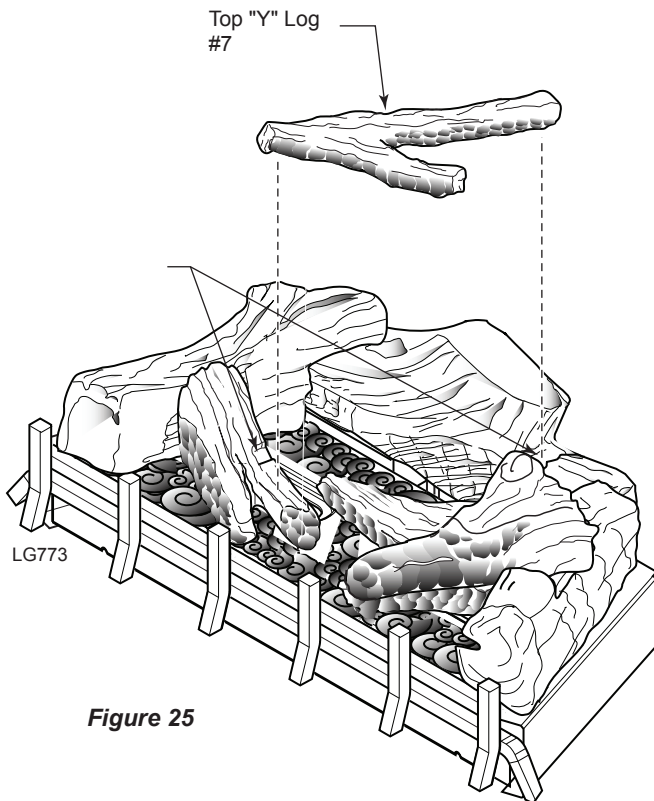

Figure 25
10. Lay top "Y" log #7 across rear log and center logs. Log #1 and log #4 have cut-outs for log #7. *Figure 25*